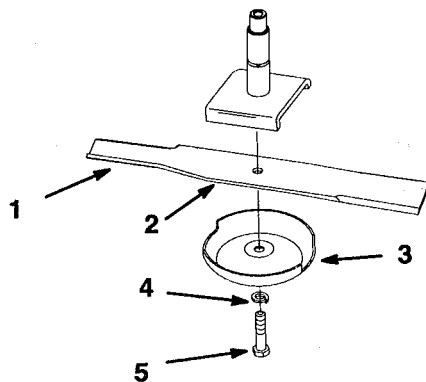
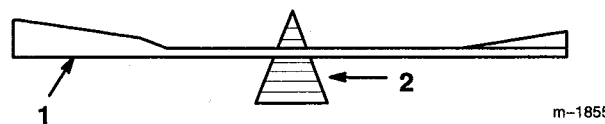

Figure 14
Figure 16
Hold the blade end using a rag or thickly-padded glove. Remove the blade bolt, lock washer, anti-scalp cup and blade from the spindle shaft (Fig. 14).
2. Check the balance of the blade by putting it on a blade balancer (Fig. 16). If the blade stays in a horizontal position, the blade is balanced and can be used. If the blade is not balanced, file some metal off the end of the sail area only (Fig. 14). Repeat this procedure until the blade is balanced.
1. Install the blade onto the spindle shaft (Fig. 14).
2. Install the lock washer and blade bolt (Fig. 14). Torque the blade bolt to 85–110 ft-lb (115–150 N•m).